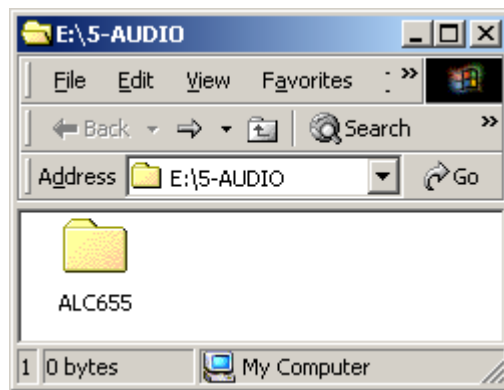

Figure 7-38: Open the ALC655 Folder
Step 2: A new window opens (**Figure 7-38**).